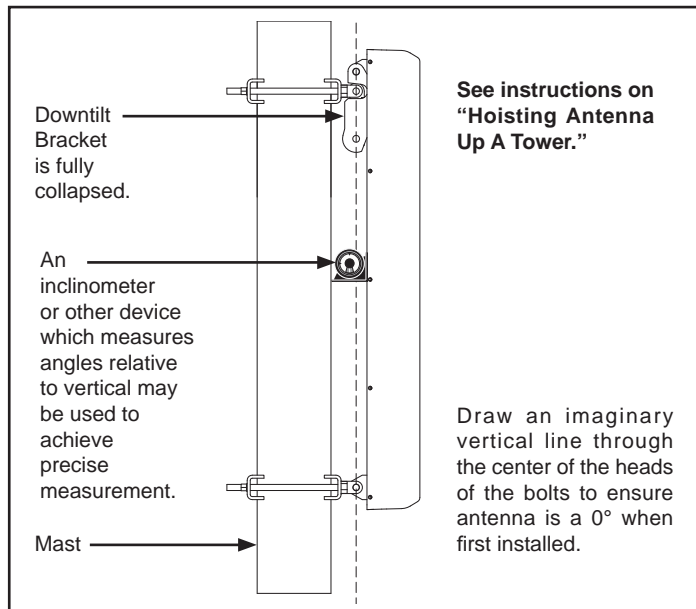

Figure 6. Ensure Antenna is Fully Collapsed at 0° When Attaching the Antenna to the Tower.
- Align antenna to vertical before lifting, as shown in Figure 6.